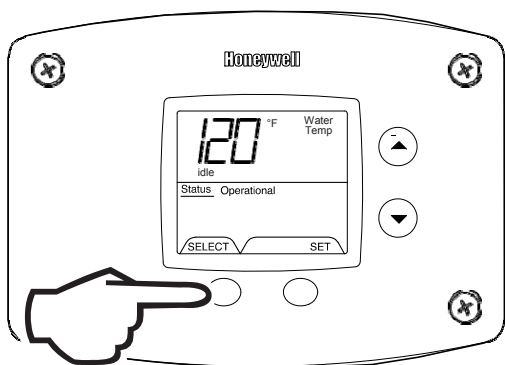

Fig. 45
- In Service Mode, Press the 'Select' button until 'Water Temp' is displayed in the upper right section of the water heater display. For water heaters using two temperature sensors in the tank, this will be the average reading between the two sensors. For water heaters using a single sensor, this is the reading for the sensor (Fig. 45).